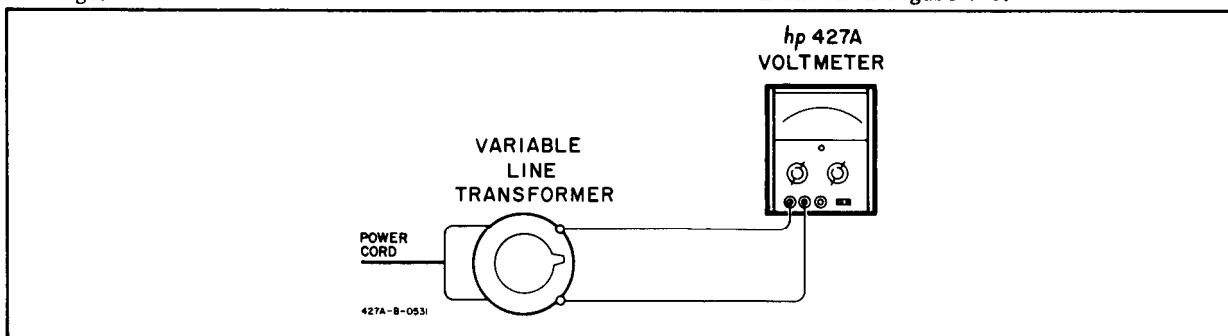

Figure 5-4. AC Rejection Check
- 5-19. A peak ac superimposed noise signal 100 times the full scale input should affect the Model 427A reading less than 1%. Figure 5-4 shows the test setup using a variable line transformer as a noise generator. A 7.07 volt rms output from the variable line transformer corresponds to a 10 volt peak noise signal. The 10 volt noise signal will be applied to the 0.1 volt dc range.
- b. Switch the FUNCTION to ACV and the RANGE to 10. Connect the variable line transformer and the Model 427A as shown in Figure 5-4.